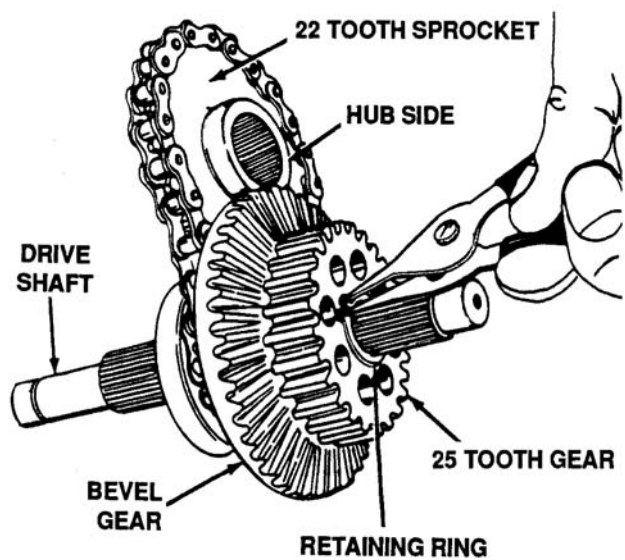

Figure 5-46. Removing Retaining Ring
24. Remove the retaining ring which holds the 25 tooth gear on the drive shaft. See Figure 5-46.